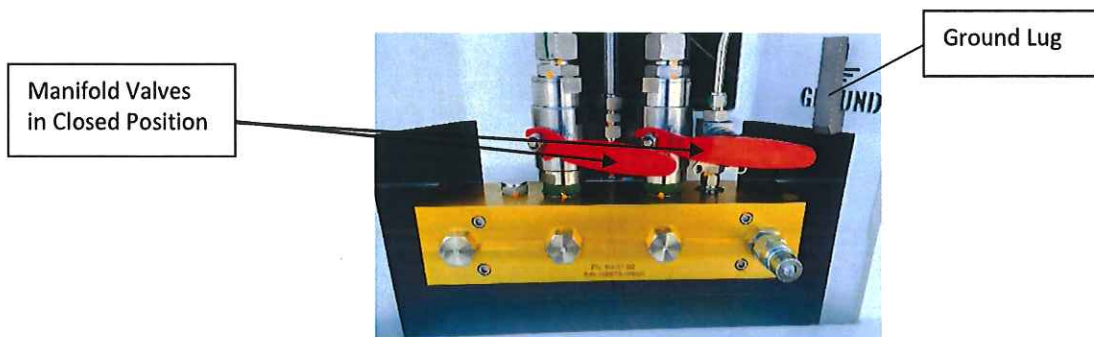

Figure 15: Grounding Lug
4. Connect grounding source to grounding lug shown in Figure 15 to prevent potential static ignition.
5. Verify that manifold valves are in their "closed" position as shown in Figure 15.